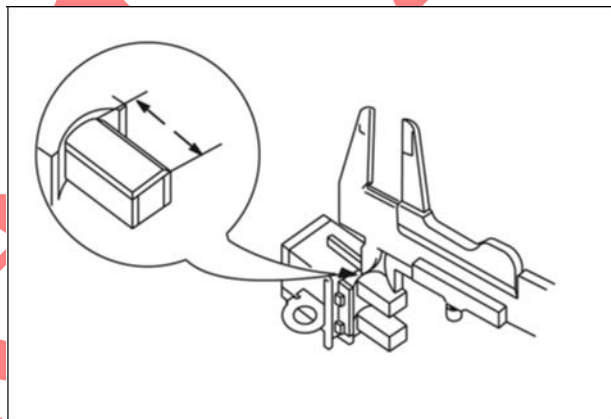

Figure 31
2. Attach BLACK meter test lead to terminal (A, Figure 31).
3. Contact Red meter to terminal (B).